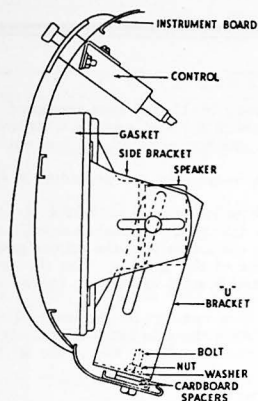

Figure 2
3. Fasten the "U" bracket to the instrument board flange with the nuts, bolts, and washers, using two cardboard spacers under each bolt. Make sure the long slot in the sides of the "U" bracket are toward the grille. (See figure 2).
5. Loosely assemble the side brackets on the speaker to the "U" bracket and force the speaker forward and in position as shown in Figure 2. Then tighten the nuts.